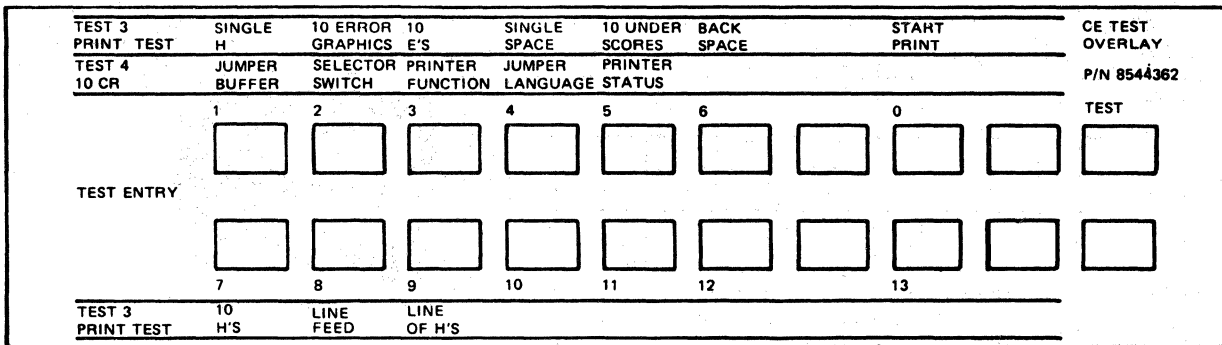

Figure 2-2. CE Test Overlay
1. Install the CE Test Overlay (P/N 8544362) over the front panel switches. (See Figure 2-2.)